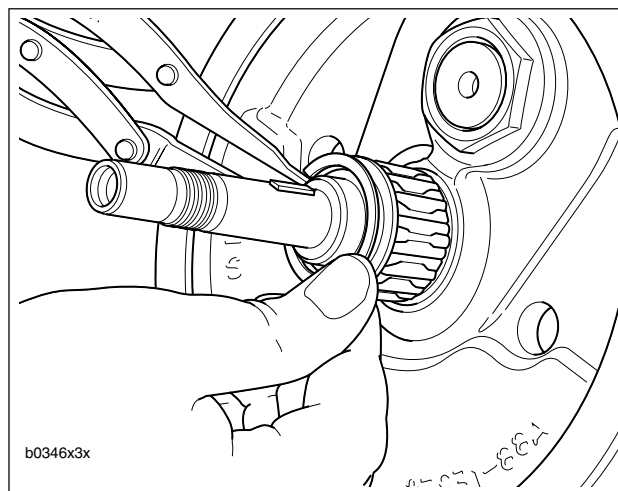

Figure 3-97. Pinion Shaft Bearing
6. See Figure 3-97. Install pinion shaft bearing.